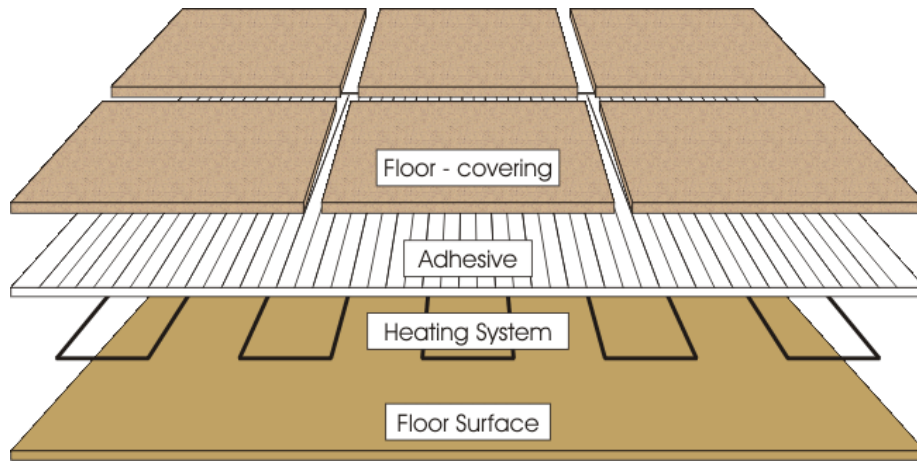

Figure 8
1. Direct Method (without scratch coat) (Fig. 8)